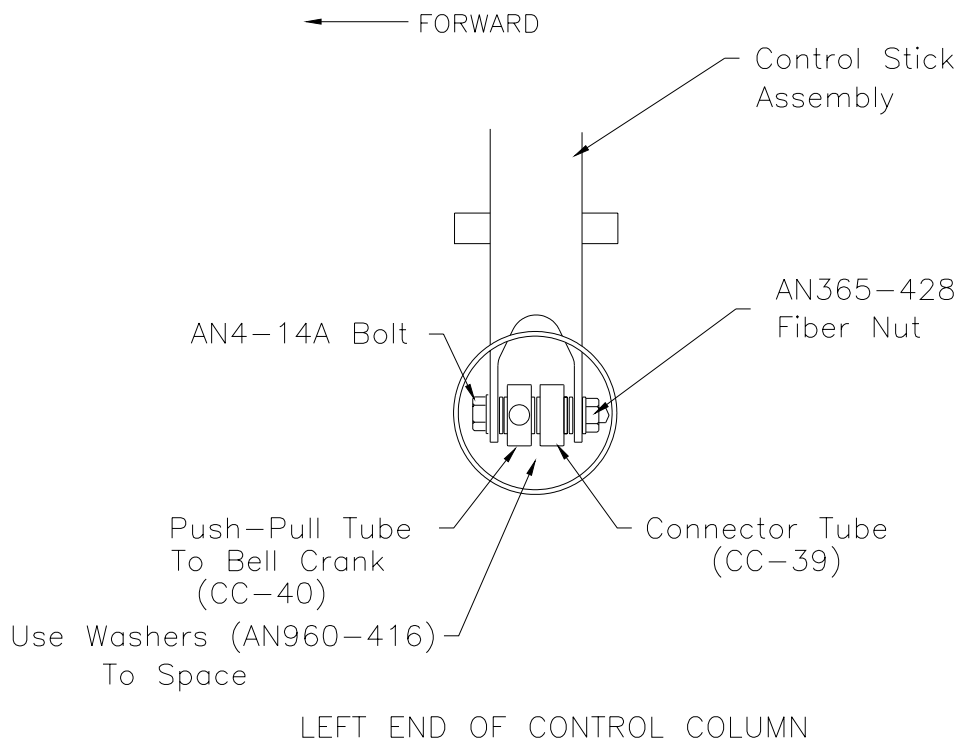

Figure 20.5.2
2) Attach one end of the push-pull tube to the pilots stick along with the connector tube. Use a couple of washers (AN960-416) if necessary to take up some space. Figure 20.5.2.